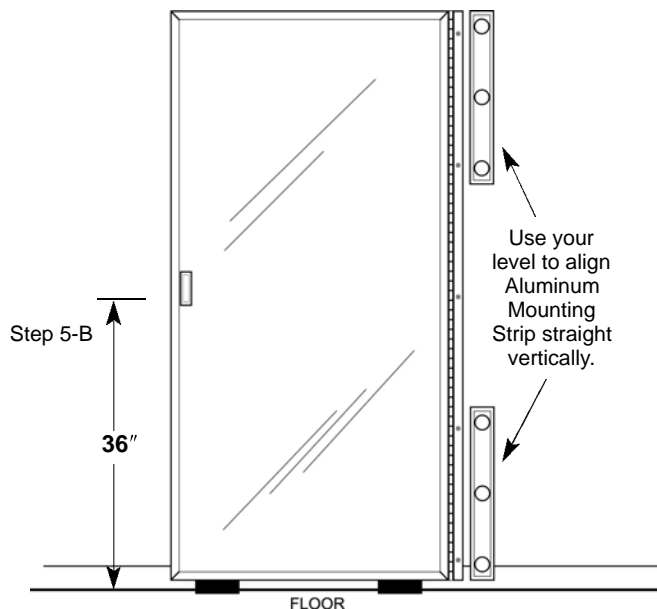

Figure 3
- C. Lift the Wardrobe Door (#1) so that the mirror front is *facing* you and the Piano Hinge (#12) is on your right. Set the Wardrobe Door (#1) on the Wood Blocks with the Aluminum Mounting Strip (#8) touching the wall at the Wardrobe Door (#1) supported on the Wood Blocks (See Figure 3). The Wardrobe Door (#1) and Aluminum Mounting Strip (#8) should be flush to the wall.
- D. Refer to Figure 3. Use the Level to align the Wardrobe Door (#1) and Aluminum Mounting Strip (#8) plumb, straight up and down. The "shims" may come in handy for this purpose.
- B. Thoroughly clean the mirror on the side of the door that opens. Peel the paper backing off of the back of the Mirror Handle (#2) and press it firmly onto the mirror, 36 up from the bottom of the Wardrobe Door (#1) so that it just touches the Glazing Vinyl (#9) (See Figure 3).